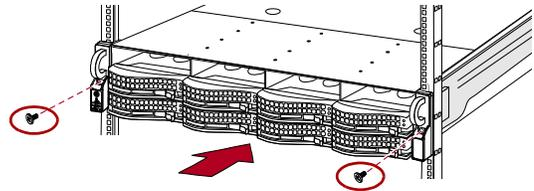

Figure 10. Secure the Expansion Array to Rack
5. Using the **two screws** provided, secure the expansion array flanges to the rack (Figure 10).